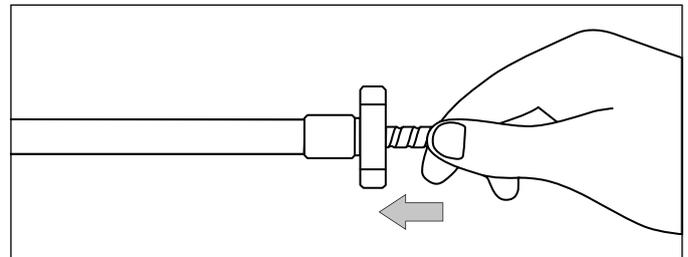

Fig. 21: Hold the flexible sensor rod close to the flange when inserting it
2. When inserting the flexible sensor rod, hold it close to the flange and insert it slowly into the support tube (Fig. 21). This allows air in the support tube to escape.
1. When inserting the flexible sensor rod, hold it close to the flange and insert it slowly into the support tube (Fig. 21). This allows air in the support tube to escape.
- When inserting the flexible sensor rod, hold it close to the flange and insert it slowly into the support tube (Fig. 21). This allows air in the support tube to escape.